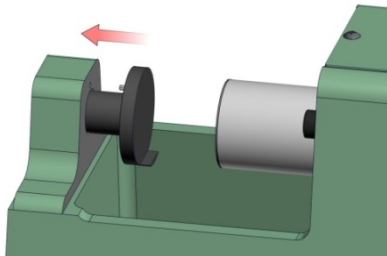

Figure 5.2.2
1. Install the two Splitting Strength Clamps by first, aligning each of the pins located on the back side of the clamps with the holes located on the Base and Hydraulic Piston of the Universal Strength Machine. Then, gently slide the 24 mm attachment onto the base (left) and 15 mm attachment onto the Hydraulic Piston (right). See Figure 5.2.2 below for installation.